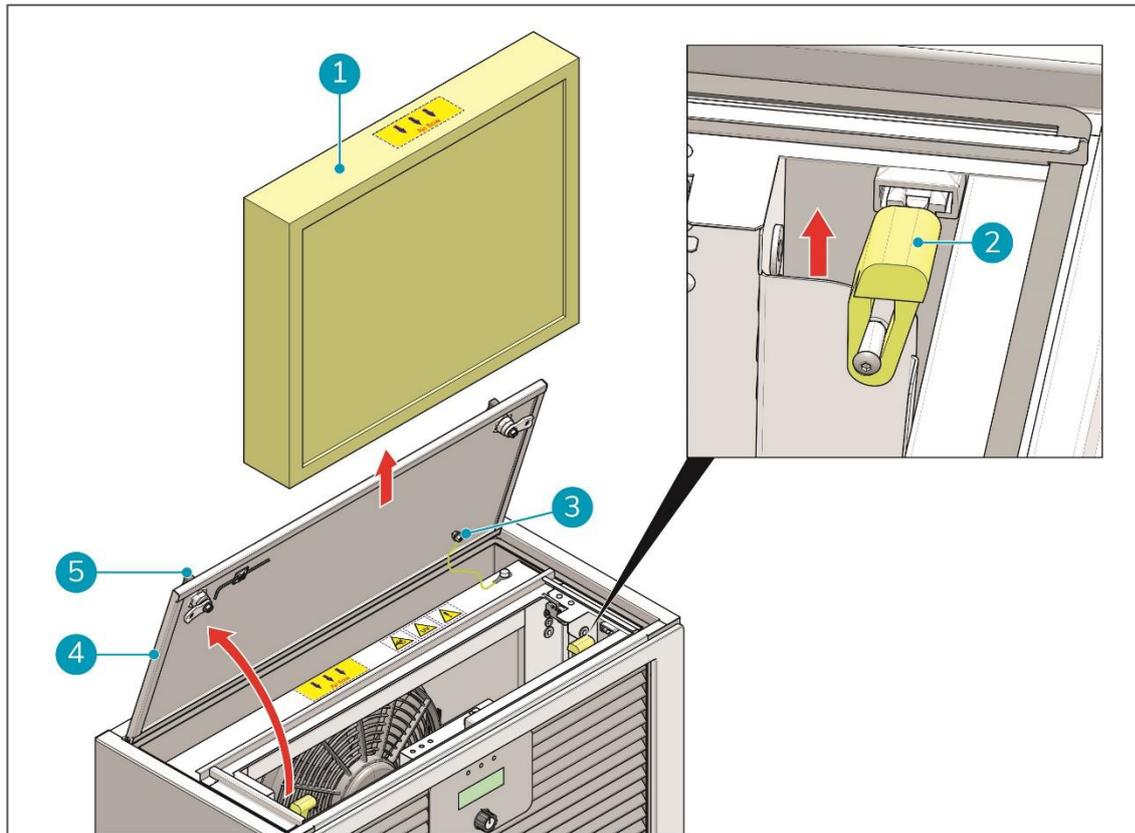

Figure 17
1. Turn the two knobs (Figure 17, pos. 5) on the main HEPA filter compartment panel (Figure 17, pos. 4) counter clockwise until the panel is loose.
NOTE: There is a ground wire (Figure 17, pos. 3) connecting the compartment panel and the main ICon Pro unit. **DO NOT** disconnect it.
3. Pull up the two yellow locking levers (Figure 17, pos. 2) to release the filter.
4. Carefully pull out the filter (Figure 17, pos. 1) from the compartment.